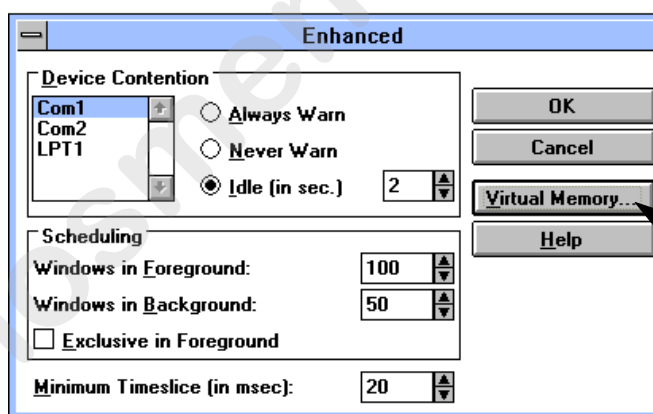

Figure 1.20. Enhanced Dialogue Box
3. Double click the **386 Enhanced** item in the **Control Panel** group. This brings up the **Enhanced** dialogue box. Refer to Figure 1.20.